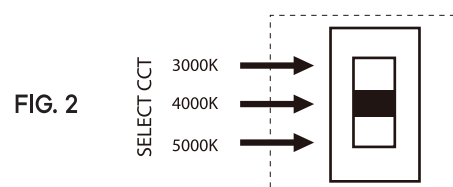

FIG. 2
- C. CONNECT THE BLACK WIRE FROM THE FIXTURE TO THE BLACK (L) WIRE FROM THE SUPPLY POWER SOURCE.
- D. CONNECT THE WHITE WIRE FROM THE FIXTURE TO THE WHITE (N) WIRE FROM THE SUPPLY POWER SOURCE.
*ADJUST CCT SWITCH ON THE BACK OF THE FIXTURE ACCORDING TO THE DESIRED COLOR TEMPERATURE AS SEEN IN FIG. 2